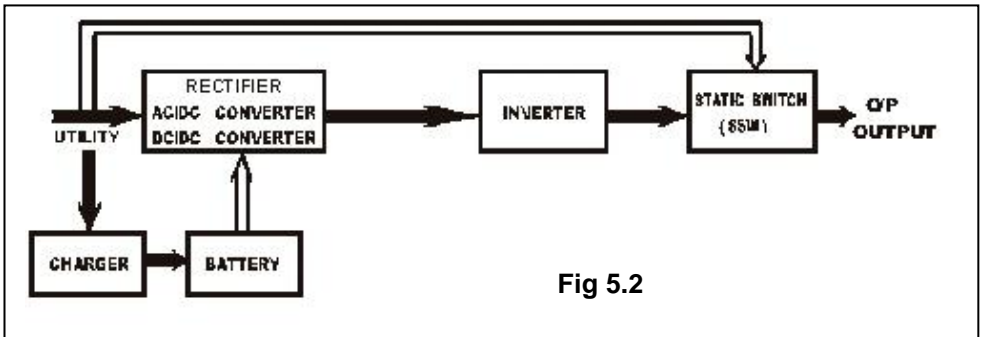

Fig 5.2
2. When Utility is back to Normal, the UPS will turn on the AC/DC converter, turn off DC/DC converter and switch the charger to charging mode. It has the same working principle as figure 5.2.
3. During a utility outage, the UPS will work as illustrated in figure 5.2. When Battery is low, buzzer will beep continuously till battery is completely cut off. The battery low protection of the UPS will cut off battery supply after a preset threshold to avoid the battery from over-drain. The  &  (Battery Low) LEDs will light up till the UPS is completely cut off. The UPS will re-start automatically when Utility is available.